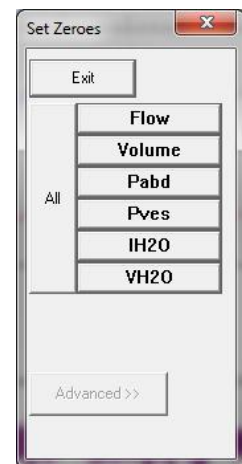

Figure 158: Set Zeros Window
- Select **SET ZEROES!** from the Menu Bar in the *Goby Software* window. The Set Zeroes window will launch (Figure 158).